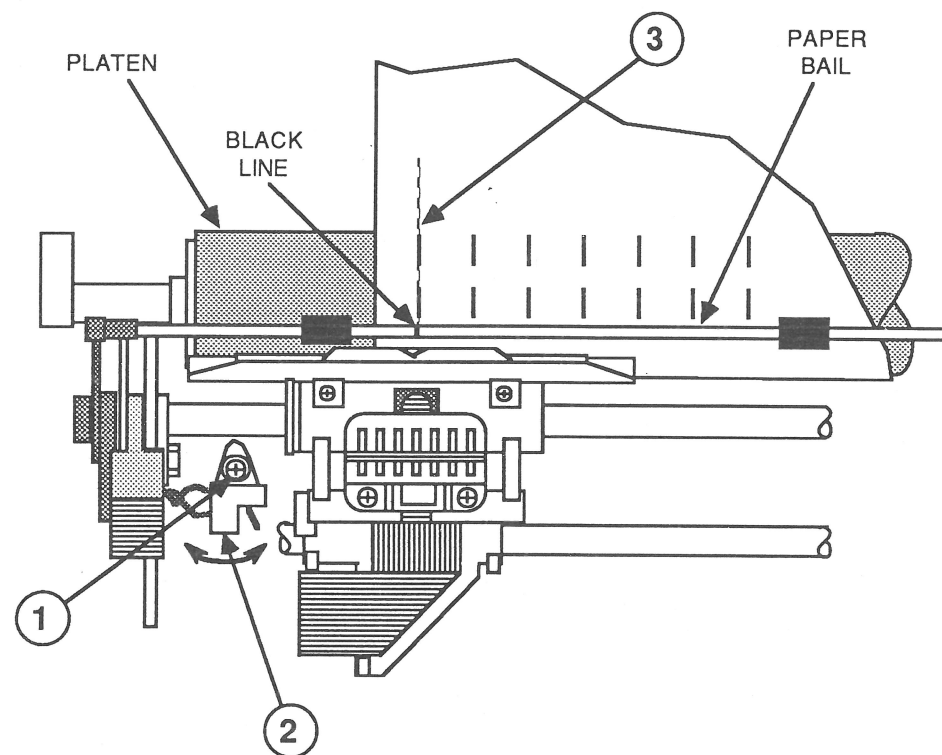

FIGURE 11
4. Loosen the screw (Figure 11, #1) securing the home position switch (Figure 11, #2).
6. Check the alignment of the first vertical line (print home position) of the printout (Figure 11, #3) with the **black** line on the paper bail.
7. Tighten the screw (Figure 11, #1) securing the home position switch (Figure 11, #2).